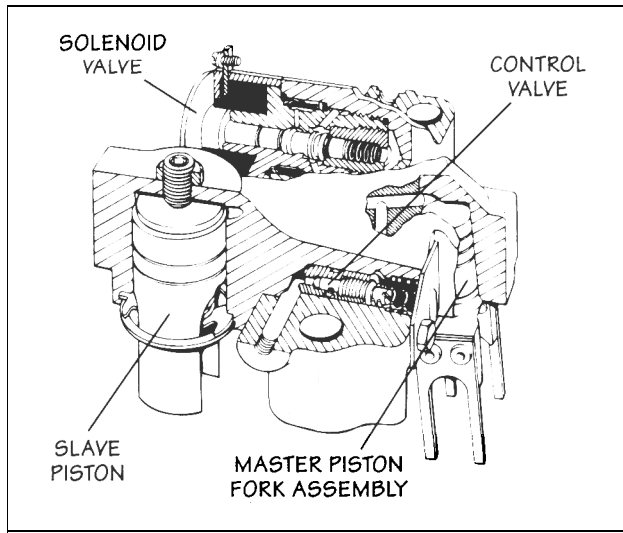

FIG. 1.6.1
- 71A/92A (Fig. 1.6.1): used on all 4, 6, 8, 12 and 16 cylinder engines whether naturally aspirated, turbocharged, TA or TTA engines